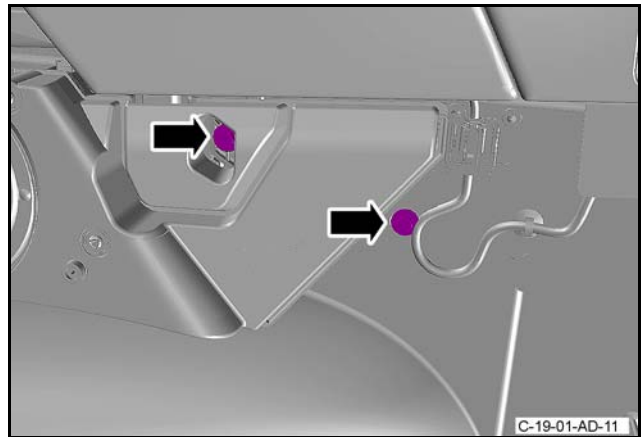

Figure 9
- 24. Remove the two screws that attach the footwell speaker to the body and remove the footwell speaker (refer to Figure 9).